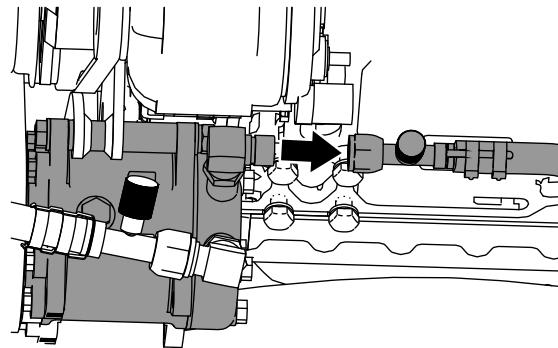

Figure 45
3. Connect the air-conditioning high-pressure hose (3/4 inch) from the cab to the right-angle fitting (3/4 inch) as shown in Figure 45.